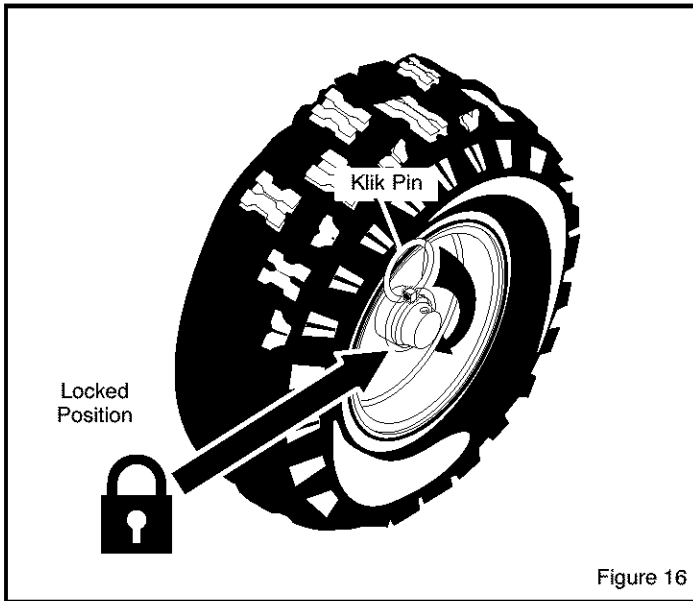

Figure 16
1. The right wheel is secured to the axle with a klik pin. This unit was shipped with this klik pin in the locked position. (Figure 16).